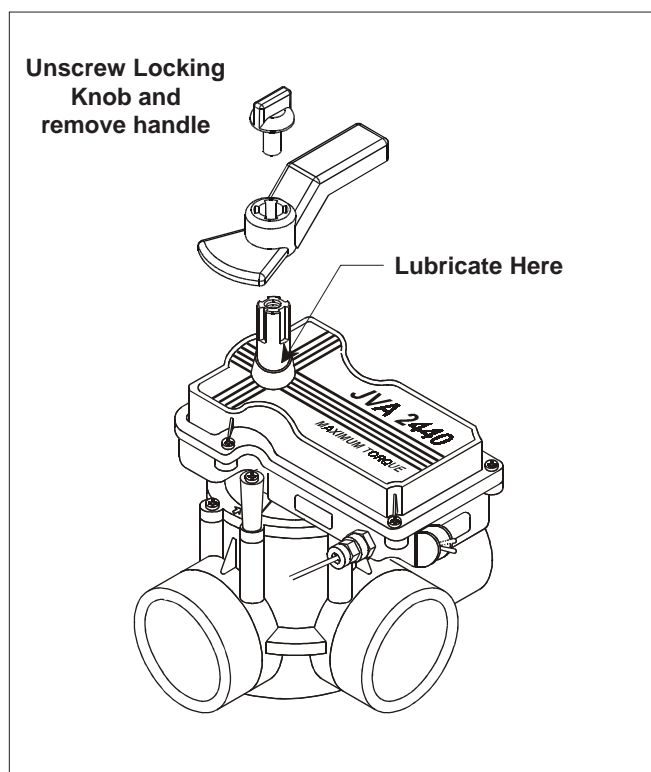

Figure 13. JVA Shaft Seal
3. Spread a small amount of Jandy Lube or other silicone base lubricant around the actuator shaft just above the lock out ring (see Fig. 13).
4. Reinstall handle and locking knob. Only tighten knob one (1) turn.